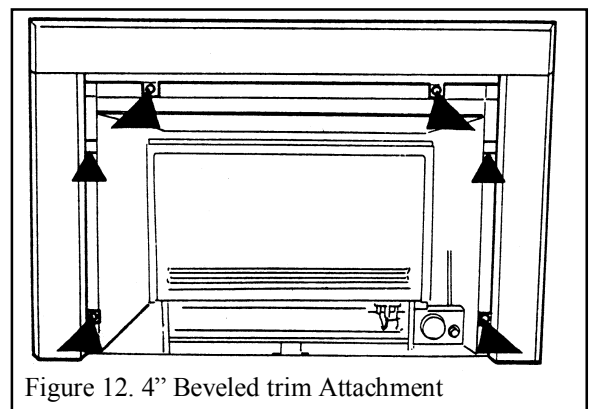

Figure 12. 4" Beveled trim Attachment
2. Place the assembled trim in position against the heater. Secure to the heater front flanges with screws through two holes on the inner flanges of each of the surround sides. See figure 12.